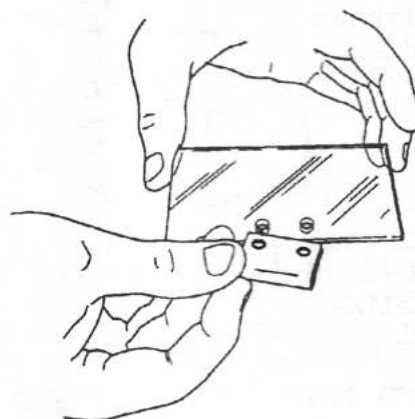

Fig. 3
3. Place the shield hinge (7) on the shield (10), lining up the two holes in each, as seen in Fig. 3.